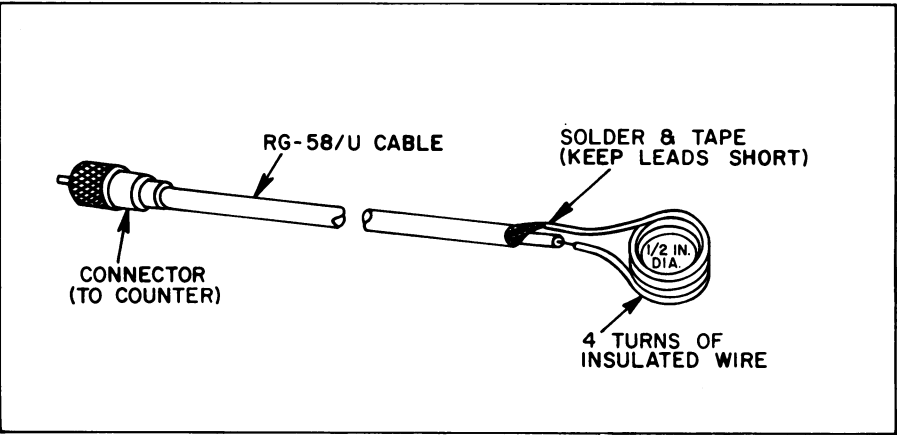

Figure 6 - Coaxial Cable and Test Loop RC-1779
- 2. Coaxial cable with test loop as described in Figure 6.